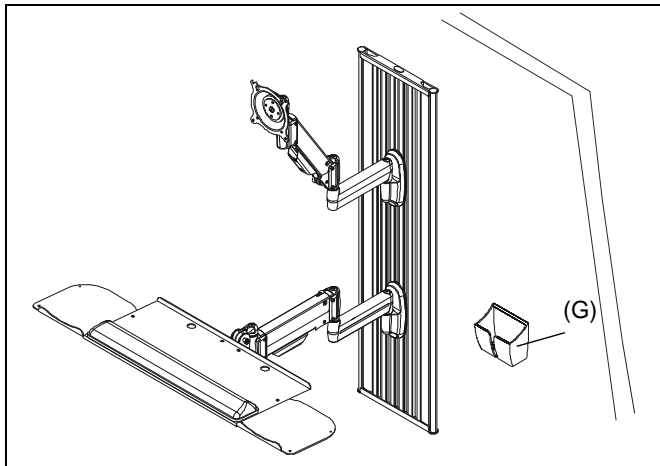

Figure 42
1. Remove adhesive backing from mouse holder (G).
2. Place mouse holder (G) on wall at desired location. (See Figure 42)